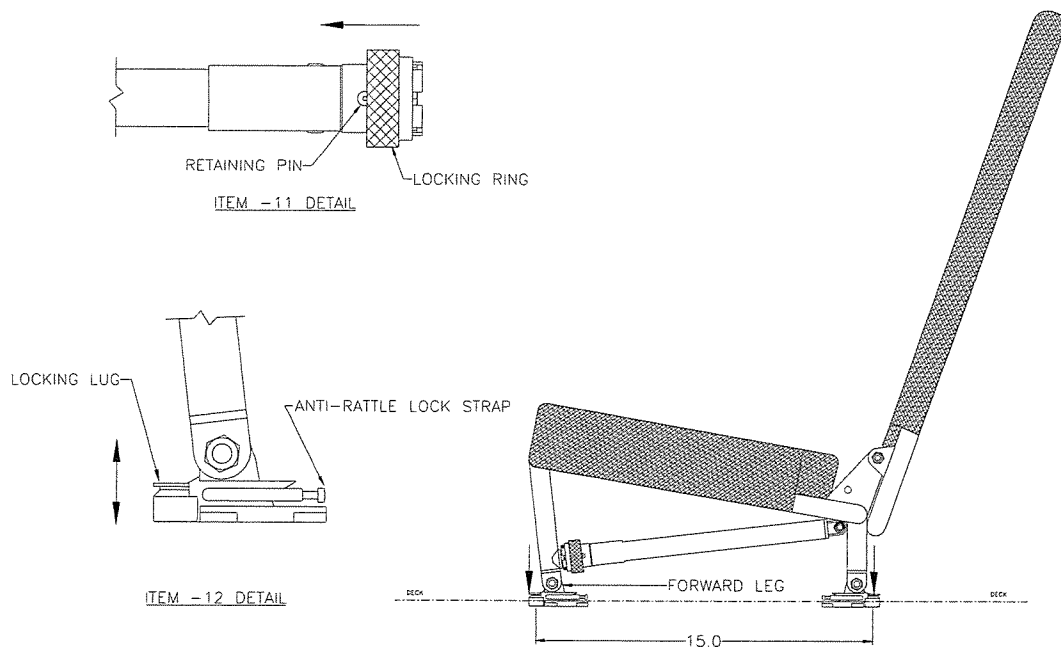

Figure 1.2.1 Seat Installation
1. Unfold forward leg and lower diagonal arms. On each quick-release fitting (item -11), push in the retaining pin and retract the locking ring (see detail in Figure 1.2.1). Position the diagonal arms to align fittings with studs on forward leg. Push forward leg back to engage studs in fittings, then extend locking rings to close jaws.